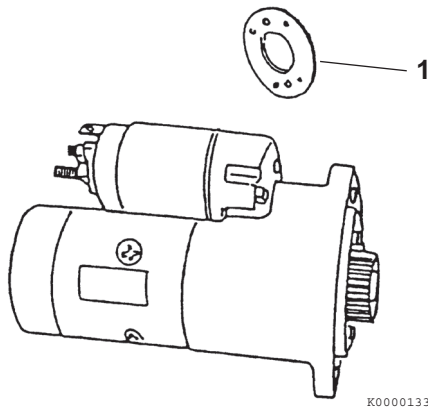

Figure 11-34
- If the measured L dimension is outside the standard range, adjust the dust covers to obtain the standard range. Dust covers **(Figure 11-34, (1))** are available in 0.020 in. (0.5 mm) and 0.031 in. (0.8 mm) thicknesses.